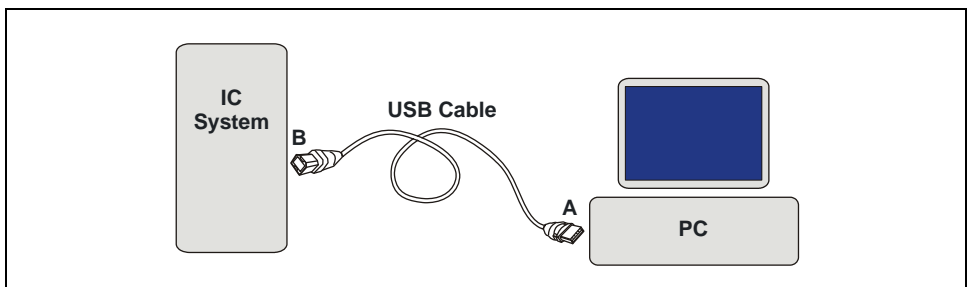

Figure 12. Example USB Connections: One IC System Connected to the PC
2. Plug the cable's "A" connector into a USB port on the Chromeleon PC and plug the cable's "B" connector into the USB receptacle (labeled **FROM PC**) on the IC system rear panel (see Figure 12).